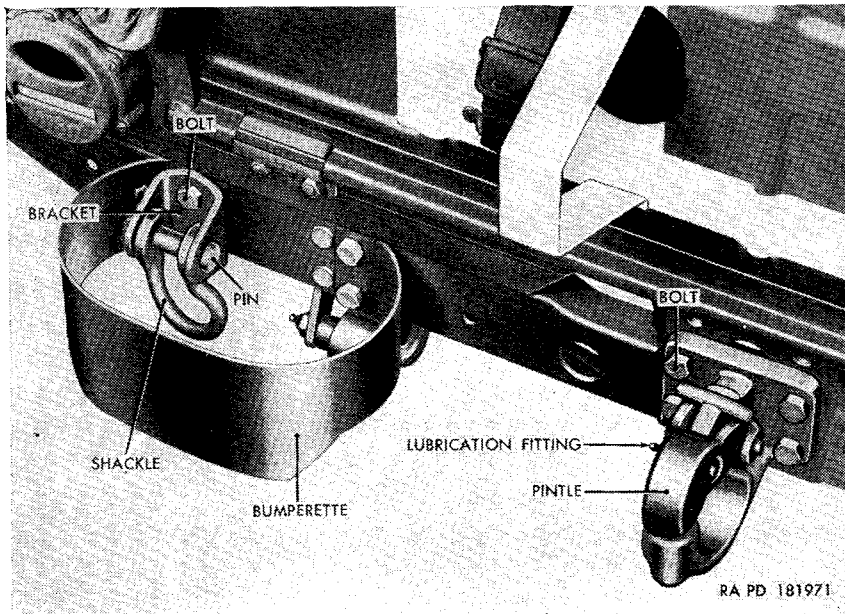

Figure 190. Left rear lifting shackle, bumperette, and towing pintle—installed.
*b. Rear Lifting Shackles and Brackets (fig. 190).*
- (1) *Removal.* Remove the snap clip from the end of the shackle pin, withdraw the pin from the rear lifting shackle bracket
*c. Bumperettes* (fig. 190).
- (1) *Removal.* Remove the rear lifting shackle and bracket (*b*(1) above). Remove the two bolts, nuts, and lockwashers securing the inner end of the bumperette to the frame rear cross member. Remove the bumperette.
- (2) *Installation.* Place the bumperette in position at the rear of the frame rear cross member. Secure the inner end of the bumperette to the cross member with two  $\frac{1}{2}$  x 1 bolts,  $1\frac{1}{32}$ -inch ID,  $\frac{7}{8}$ -inch OD lockwashers, and  $\frac{1}{2}$ -inch nuts. Install the rear lifting shackle and bracket (*b*(2) above).
*d. Towing Pintle Assembly* (fig. 190).
- (1) *Removal.* Remove the four bolts, lockwashers, and nuts securing the towing pintle assembly to the frame rear cross member and reinforcement. Remove the pintle. Unscrew the two lubrication fittings from the pintle.
- (2) *Installation.* Install two  $\frac{1}{4}$ -28NF lubrication fittings in the towing pintle assembly. Position the towing pintle in place at the rear of the vehicle. Secure the pintle to the frame rear cross member and reinforcement with four  $\frac{1}{2}$  x 2 bolts,  $\frac{1}{2}$ -inch lockwashers, and  $\frac{1}{2}$ -inch nuts.